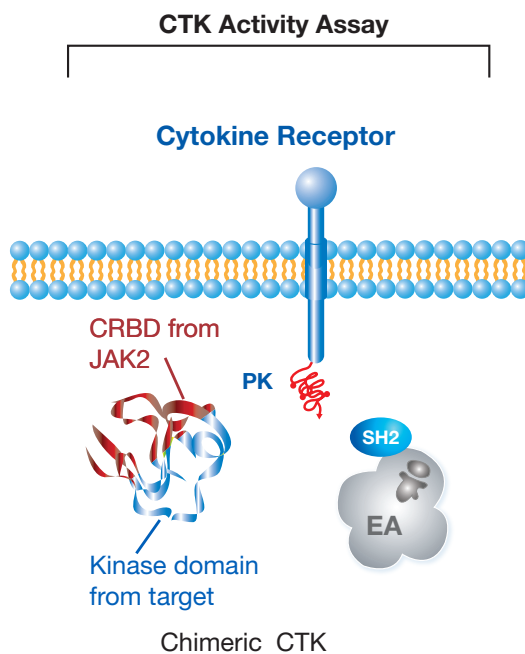

Figure 1: PathHunter Cytosolic Tyrosine Kinase Activity Assay Principle.
In the PathHunter assay approach for tyrosine kinases, the ProLink tag is fused to the C-terminus of the receptor. The EA is fused to a phosphotyrosine SH2 domain containing protein that is able to bind the activated cytokine receptor. Ligand-induced activation of the receptor results in receptor phosphorylation. The SH2-EA fusion protein binds the phosphorylated receptor, forcing complementation of PK and EA to form an active β -gal enzyme. β -gal enzymatic activity is quantitatively measured using a chemiluminescent substrate in the PathHunter Detection Kit (Figure 1.)
PathHunter CTK Activity assays have partial proteins with only the catalytic domain of the target kinase fused to the cytokine receptor binding domain (CRBD) of JAK2 (see Figure 1). The CRBD serves to localize the target to the cytokine receptor, facilitating target kinase mediated phosphorylation of the receptor. By tagging the intracellular domain of the target protein with PK and the SH2-domain protein with EA, we can monitor the activation of the target kinase as it phosphorylates the cytokine receptor.
- h. Set up additional dose curves for agonists and antagonists. See figures 1 and 2 for sample plate maps with agonist and inhibitor dose curves.
Figure 1. This plate map shows 11-point dose curves with 2 data points at each concentration for 4 compounds per plate for a total of 88 data points per 96-well plate.